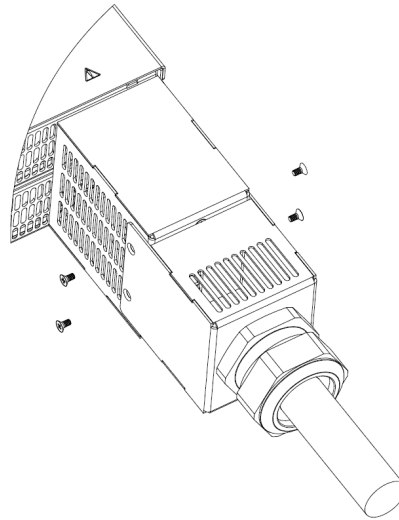
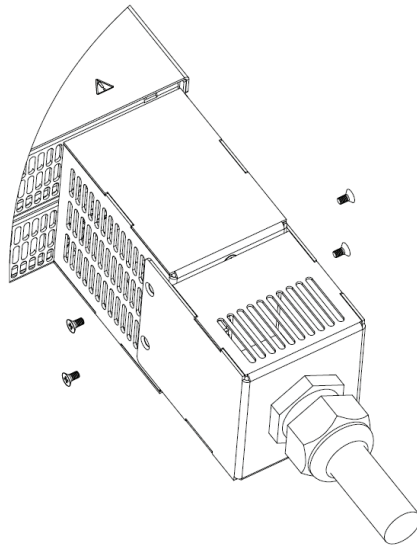
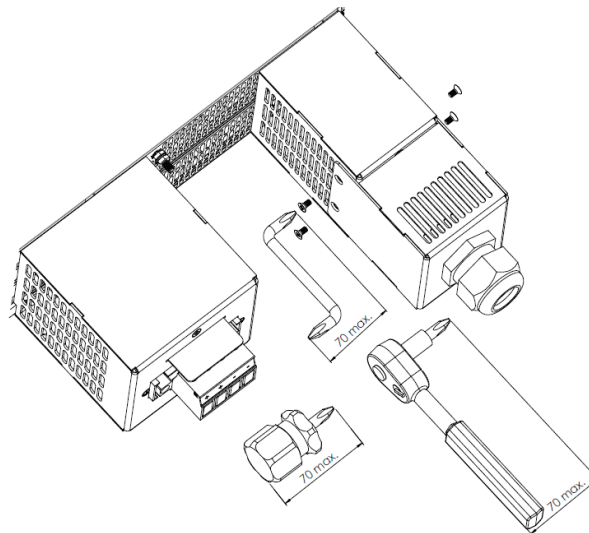

Figure 4-37: Strain Relief Assembled to 3-Phase 208 Power Supply Rear Panel
Figure 4-38: Strain Relief Assembled to 3-Phase 400/480 Power Supply Rear Panel
Figure 4-39: Strain Relief Assembly Maximum Tools Length
8. Fix the strain relief assembly, by 4 M3x8 Flat head screws, supplied in the accessories box, For 3-Phase 208, refer to Figure 4-37. For 3-Phase 400/480, refer to Figure 4-38 (10kW is shown, it applies to 15kW as well). Use short screwdriver, Z-shaped Phillips screwdriver or Phillips bit ratchet as shown in Figure 4-39 (dimensions are in mm). Remember to connect AC input connector into power supply AC input plug.